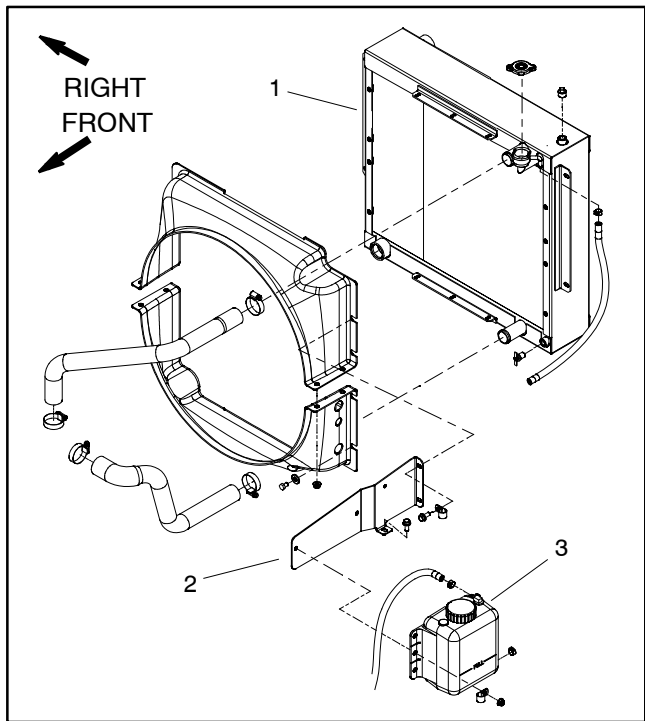

Figure 19
10. Remove fasteners that secure the coolant reservoir tank mount to the radiator and radiator shrouds (Fig. 19). Position and support coolant reservoir with mount away from the engine.